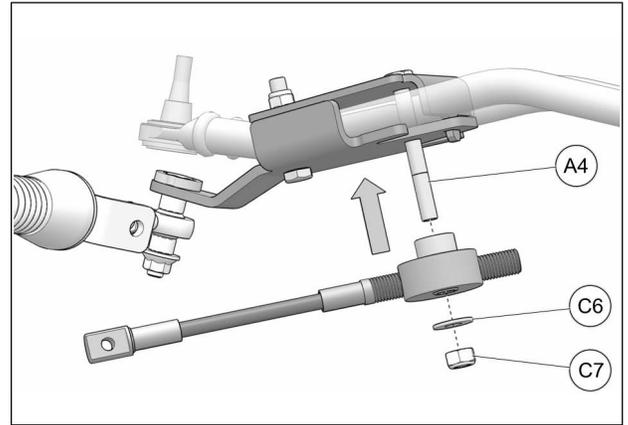

Fig. 27
14. Slip steering limiter cable assembly over M10x90mm bolt (A4) previously installed in step 5. Use supplied washer (C6) and nut (C7) to secure steering limiter assembly in place. Tighten nut to 50 Nm [37 lb•ft]. Refer to Fig. 27